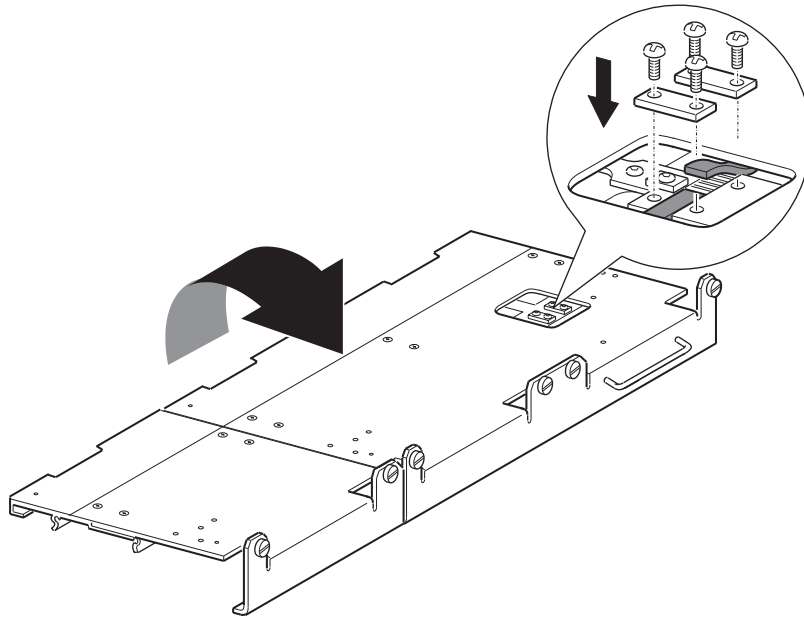

Figure 79. Timing belt to belt block
18. Place the timing belt ends on the belt block as shown in Figure 79 on page 82.
19. Secure the timing belt with the two belt brackets and four retaining screws. If the belt was sized properly a small space between the belt ends is visible as shown in Figure 79.